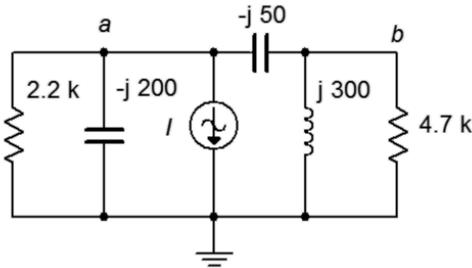

Figure 5.26
52. For the circuit of Figure 5.26, determine the Thévenin and Norton equivalents that drive the combo of  $4.7\text{ k}\Omega$  in parallel with  $j300\ \Omega$ . Does this combo achieve maximum load power? If not, what combo will achieve maximum power and what is the resulting power?  $I = 200\text{E}-3\angle 0^\circ$ .